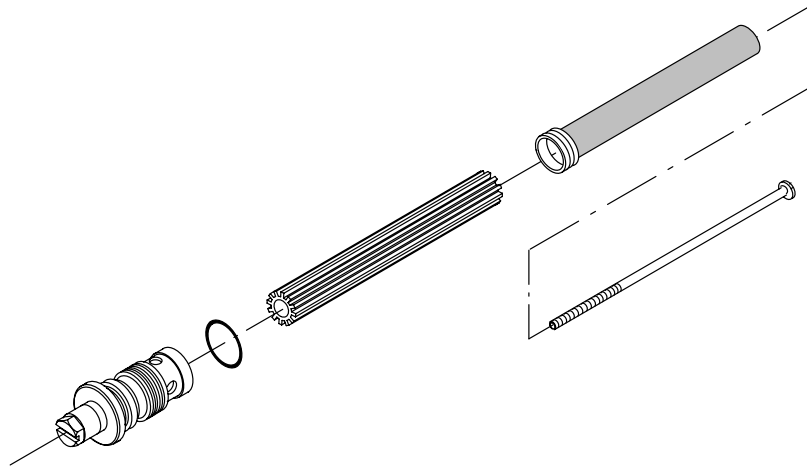

Figure 5-4 Assembling the manifold filter
9. See Figure 5-4. Reassemble the filter.